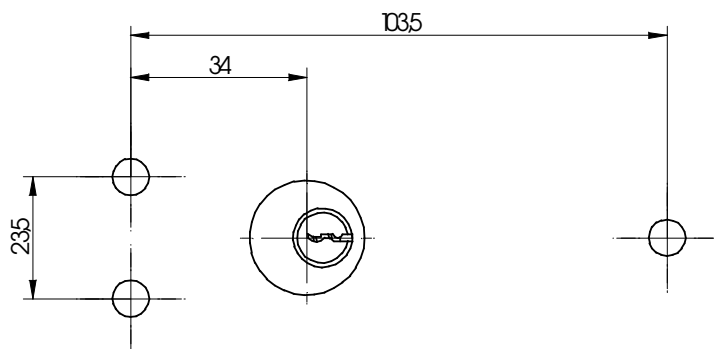

Fig. 1: Fastening hole pattern
- For installation and adjustment of the lock on the door, make sure that the key can be inserted into the lock without having to apply force and without jamming. This can be achieved by mounting the lock according to the following pattern of mounting holes (Fig. 1). For further lock dimensions please refer to the Kaba Mauer Catalogue Sheet.